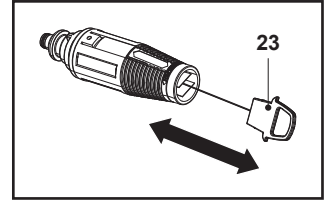

Fig. 20
2. Remove any dirt deposits from the nozzle hole using a needle (23) (Fig. 20).